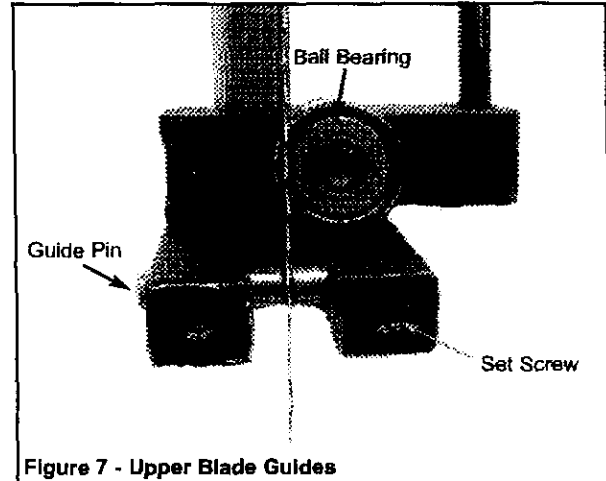

Figure 7 - Upper Blade Guides
- Loosen set screws and adjust guide pins to sides of the blade (see Figure 7). Use a feeler gauge to check that guide pins are 0.002" away from blade.